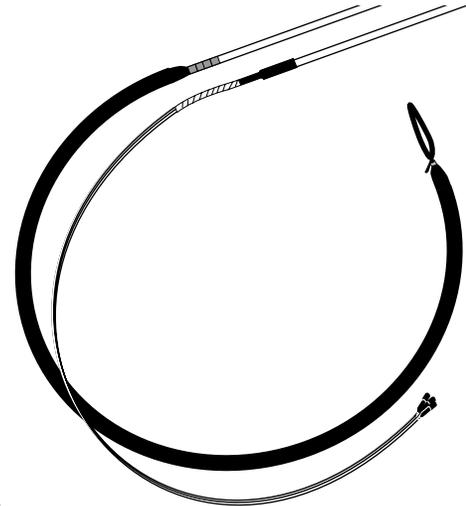

Figure 1
1.1 This procedure describes how to install a protective, reusable grip over 36 and 48 fiber Ruggedized Ribbon Cable Assemblies (Figure 1).